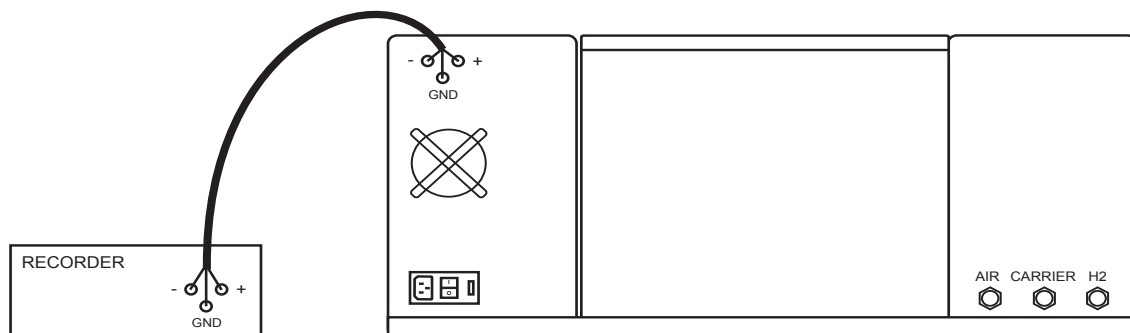

Figure 3-1 (For illustrative purpose only. Instruments may vary.)
1. Connect one end of the recorder cable to the terminals located at the rear of the GC (Figure 3-1). Connection should be made as follows: